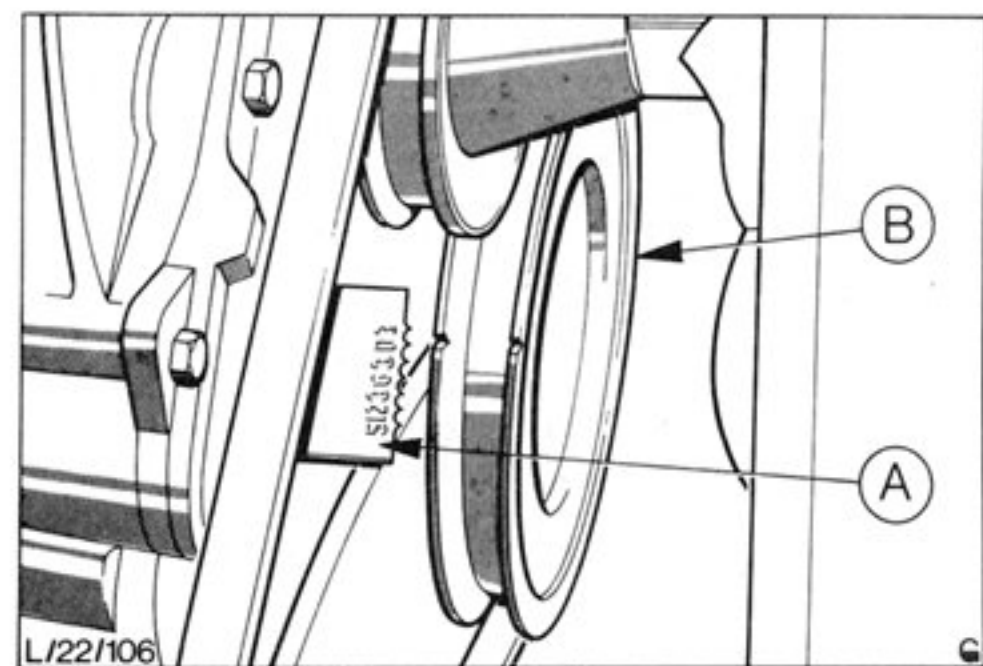

Fig.35. Engine set on TDC.
13. Check timing and timing advance characteristic, as detailed in Operation No. 22 213, Fig.35.